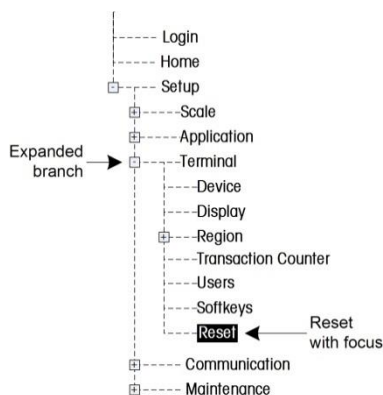

Figure 3-25: Setup Menu Tree – Reset
1. Press the SETUP softkey . The setup menu tree displays (see Figure 3-25).